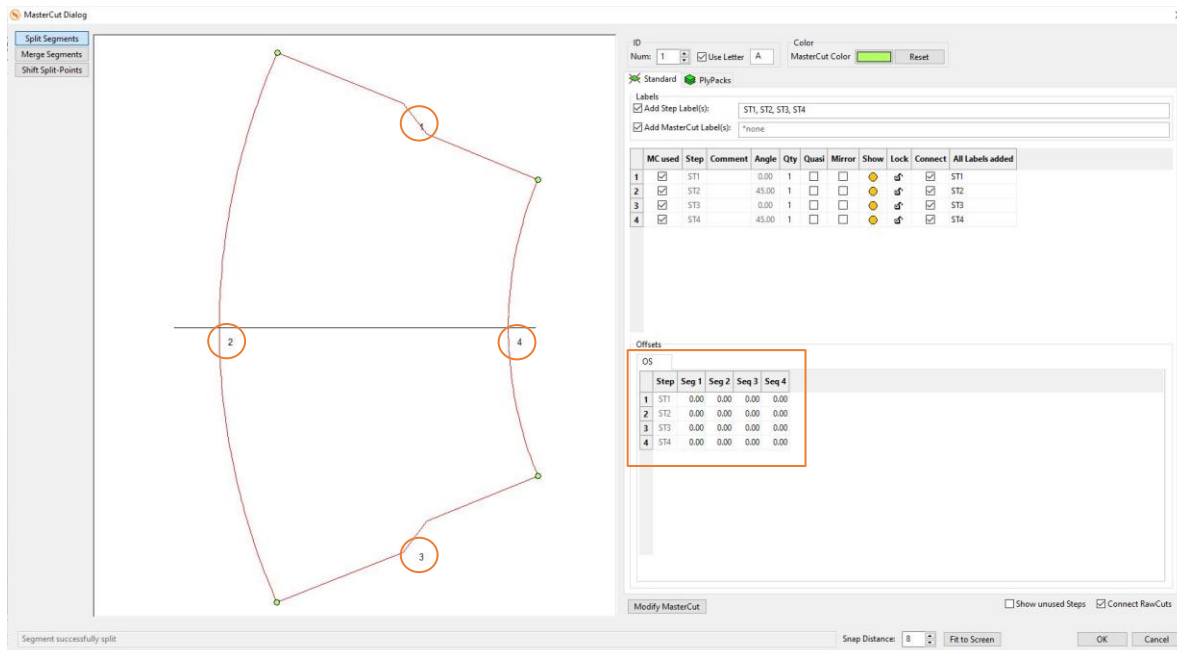

Figure 110
16. Next select split points **SP1**, **SP2**, **SP3** and **SP4** one after each other to receive four segments. Try to follow the order given here so that your numbering of the segments in the further steps also corresponds to that in this User Guide (Figure 110).